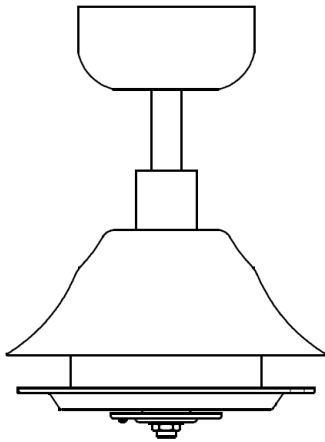

Fig. 4
- Lift the fan assembly onto the mounting bracket. Fig. 4